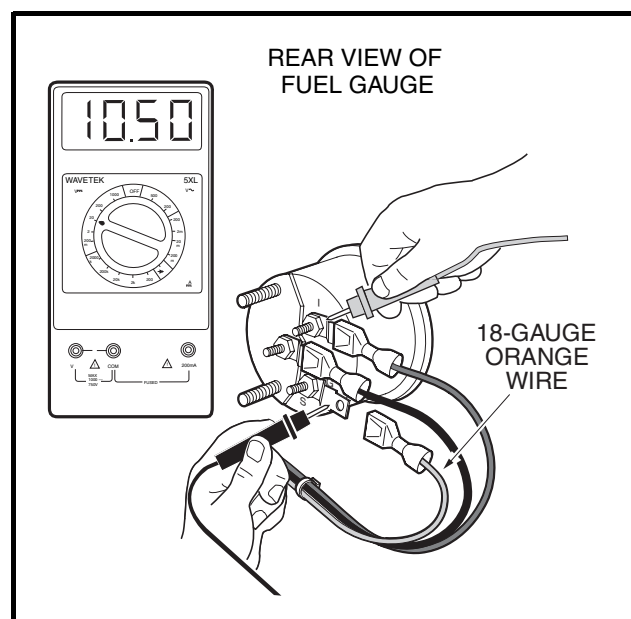

Figure 11-37 Fuel Gauge Voltage Test
8. The orange wire should remain disconnected for this step. With the black probe still on the terminal (S) of the fuel gauge, place the red (+) probe of the multimeter on the (I) terminal of the fuel gauge. The voltage reading should be the same as the full battery voltage reading obtained in step 4. If the reading is incorrect, replace fuel gauge (**Figure 11-37, Page 11-35**).